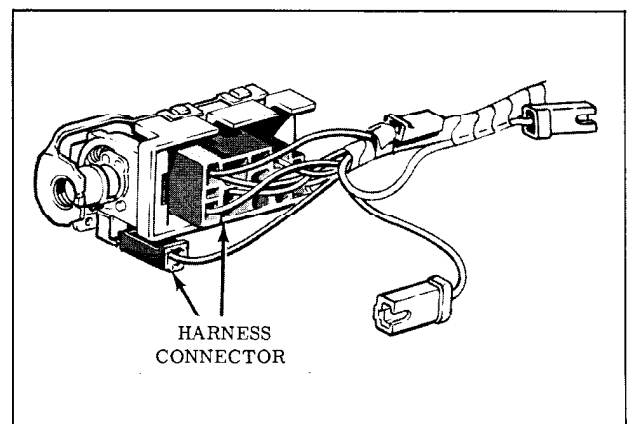

Fig. 13-76 Headlamp Switch Wiring
1. Disconnect wiring from lamp switch. (Fig. 13-76)